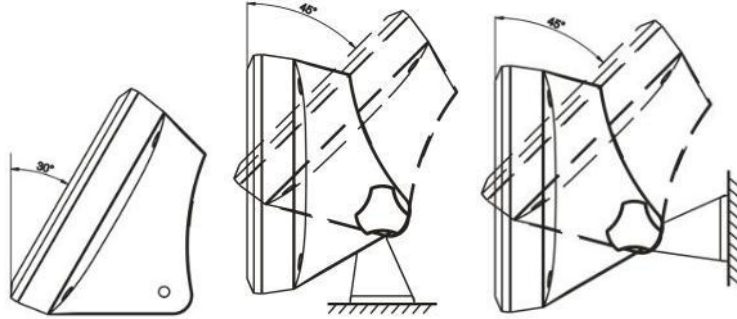

Figure A-6: Adjusting the Bracket for Mounting on Wall or Column
2. The bracket allows a wide range of adjustment, as shown in Figure A-6.